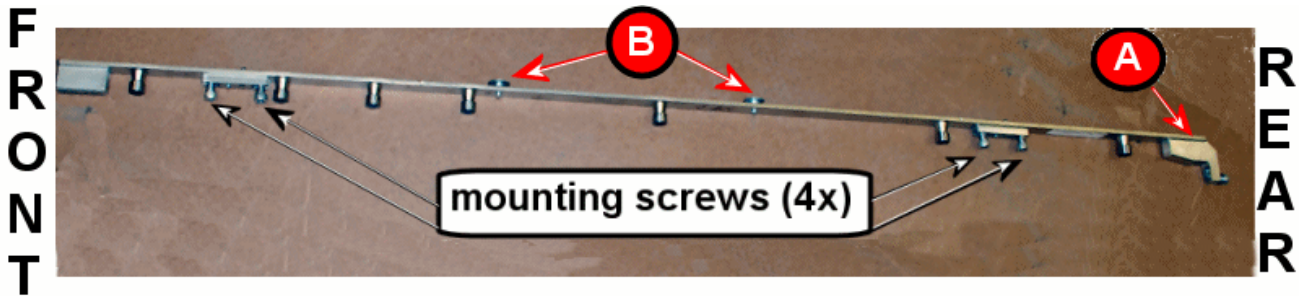

Figure 31 CEC Rail Details
STEP 57 Verify the rails are properly oriented for Rack installation(see Figure 31).